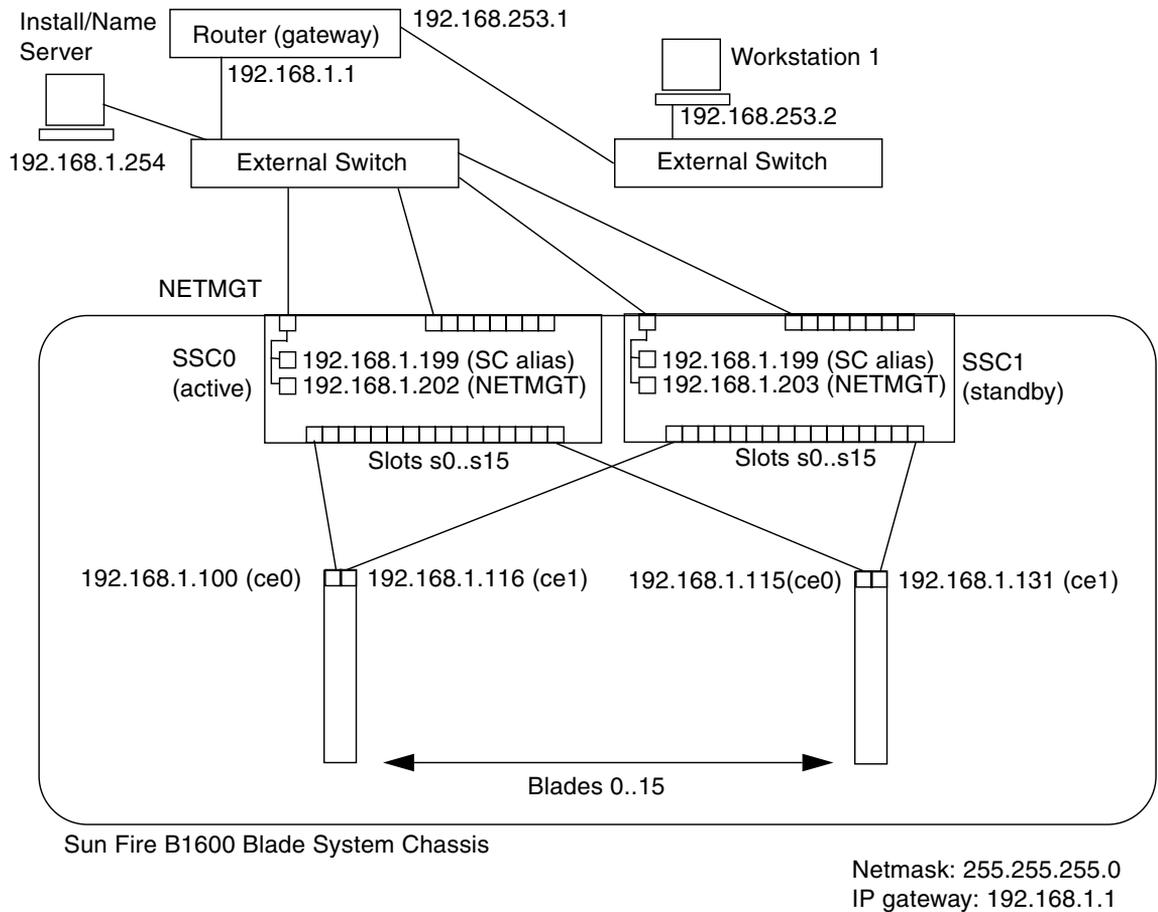

FIGURE 3-1 Sample Configuration Using No VLANs
FIGURE 3-1 shows a sample network containing a Sun Fire B1600 blade system chassis. The subsequent sections use this diagram and the IP addresses marked on it to illustrate the steps you need to perform.
This chapter also includes a sample `/etc/hosts` file, and sample `/etc/ethers` and `/etc/netmasks` files. These illustrate how to edit the files on a Name Server to prepare your network environment to receive the chassis. Use these sample administration files for guidance, substituting your own IP addresses and host names for the ones used in the sample network illustrated in FIGURE 3-1.
FIGURE 3-1 shows a Sun Fire B1600 blade system chassis with two SSCs installed and slots configured for 16 blades. The `ce0` interface for each blade in a system chassis has a connection to the switch in SSC0, and the `ce1` interface on each blade has a connection to the switch in SSC1. One or more of the eight uplink ports on the switch are connected to an external switch that has a Network Install Server (also containing a Name Server) connected to it. This external switch has a router (with IP address 192.168.1.1) connected to it that acts as the default gateway from the Sun Fire B1600 blade system chassis to the wider network. Finally, on both SSCs the 100Mbps network management port (labeled NETMGT on the rear of the chassis) is also connected to the external switch.
To prepare a simple network environment (like the one illustrated in FIGURE 3-1) to receive a system chassis containing B100s blades, you need to edit the `/etc/hosts`, `/etc/ethers`, and `/etc/netmasks` files on your Solaris Name Server:
- CODE EXAMPLE 3-1 is a sample `/etc/hosts` file containing IP addresses and hostnames for the network configuration illustrated in FIGURE 3-1.
- CODE EXAMPLE 3-2 is a sample `/etc/netmasks` file containing netmasks for the IP network numbers used in the sample network in FIGURE 3-1.